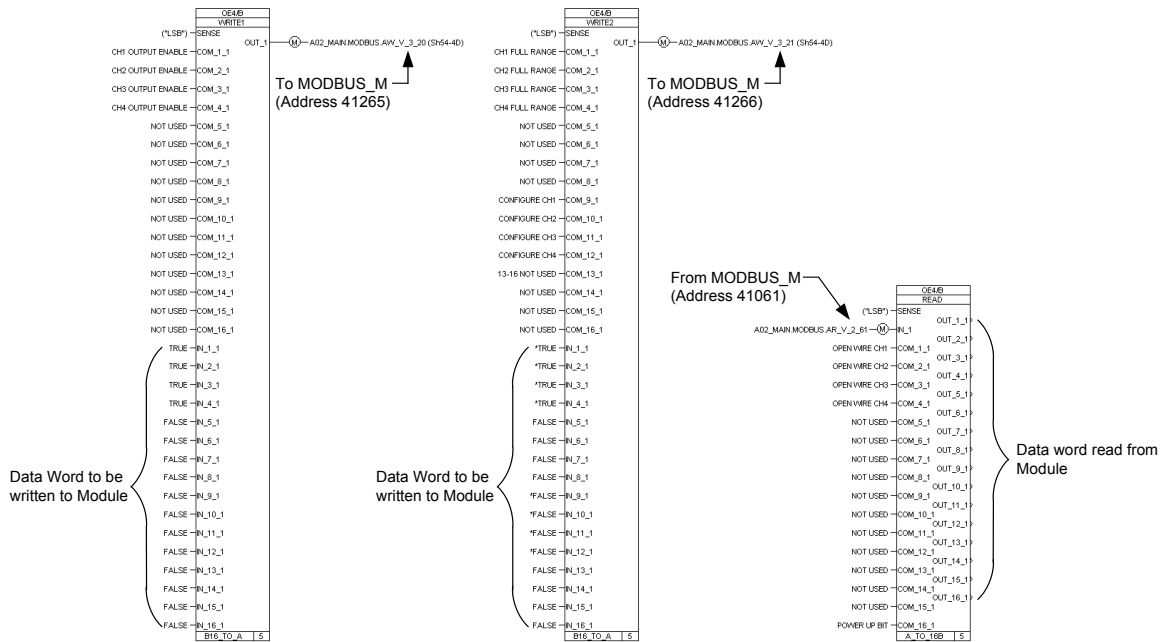

Figure 6-79. Example of 1794-OE4/B Read and Write GAP Blocks
In this example, the read block is set up to monitor the four broken wire bits and the power up bit on the module. The write blocks are set up to configure the module for multiplex control and 0-20mA range. Since all of the multiplex control (M) bits are set to true, the safe state words in addresses 10-13 are not relevant. See Figure 6-79 for example of 1794-OE4/B Read and Write GAP blocks.